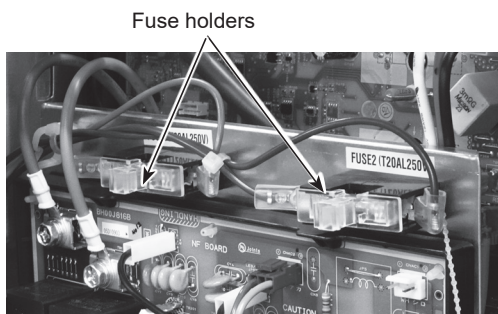

Figure 7
2. Remove 2 screws (4 x 10) for cont. base to remove the cont. base. (See Figure 7)